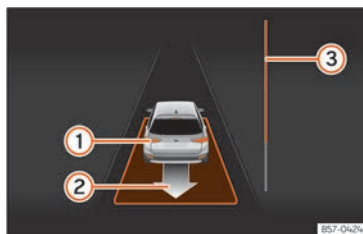

Fig. 128 On the instrument panel display: driving off from perpendicular parking.
- Reverse until the continuous ParkPilot signal sounds; **OR:** reverse until the instrument panel display shows the forward indication. The progress bar >>> Fig. 128 [3] indicates the distance to cover.